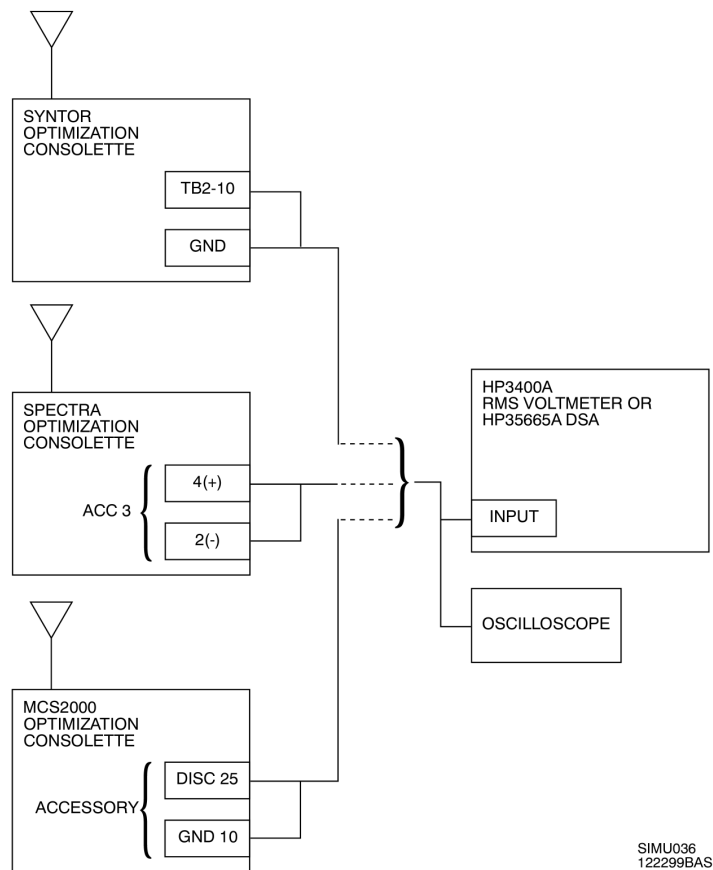

Figure 7-8 **Amplitude Optimization Test Setup**
1. Set up test equipment as shown in Figure 7-8.